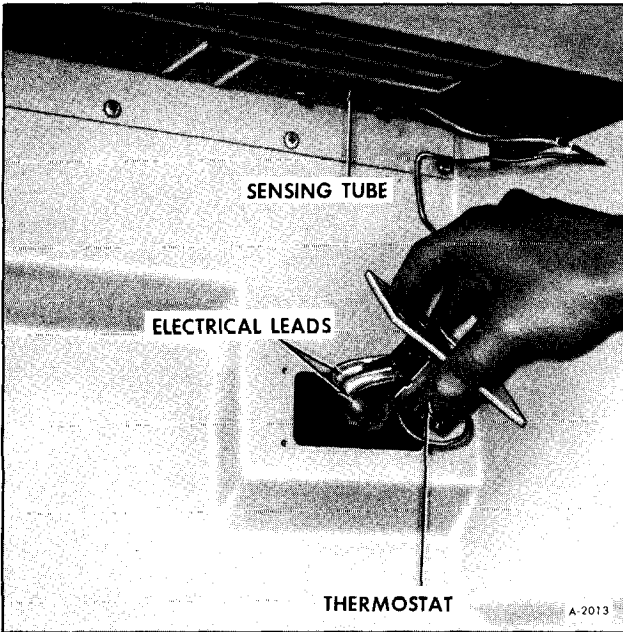

Figure 10-Removing Thermostat
THERMOSTAT REMOVAL (FIGURE 10)
2. Install three electrical leads shown in Figure 10.